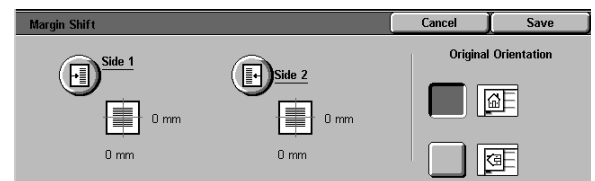

Figure 16: Margin Shift screen
- 1 Touch the **Margin Shift** button on the Added Features tab to display the Margin Shift screen, Figure 16.